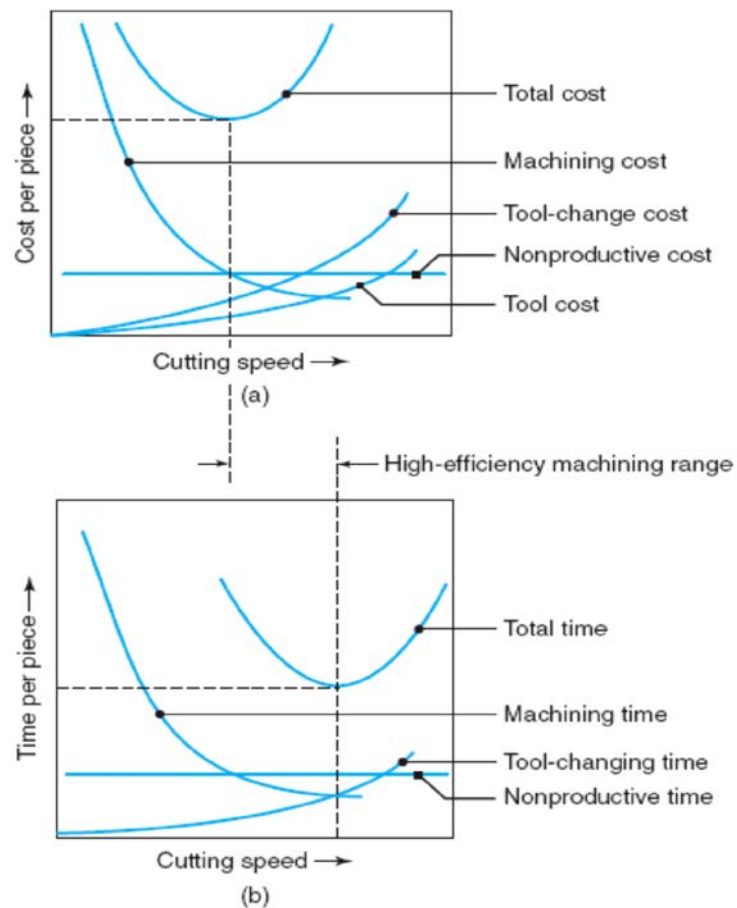

Figure Q2[c]
- [c] Figure Q2[c](a) shows a schematic plot of the relationship between cutting speed and cost per piece, and Figure Q2[c](b) shows the relationship between cutting speed and time per piece as function of various machining parameter. Comments on the plot by highlighting the ideal scenario for each case.**